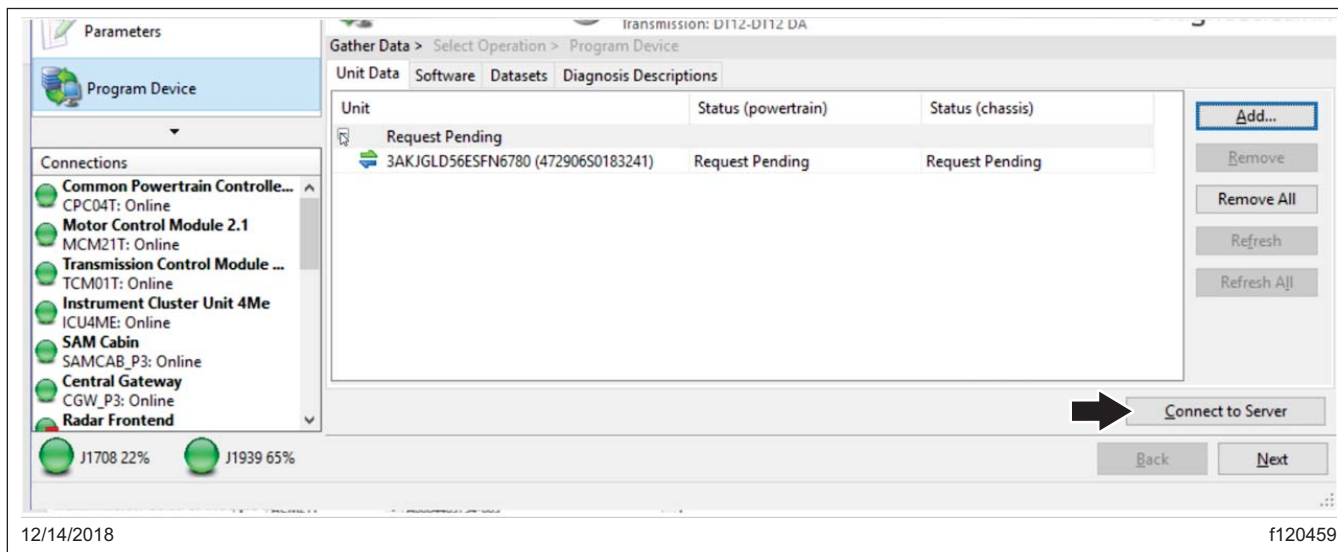

Fig. 16, Connecting to the Server to Download Data
13. A 'Request Pending' status for the VIN appears in the 'Unit Data' window. Select 'Connect to Server' to download the updated unit data. See Fig. 16.